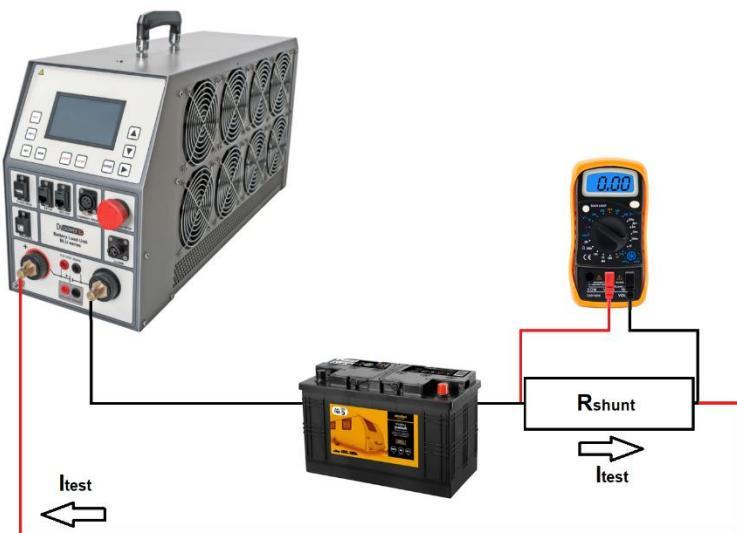

Figure 8-2: Connection of BLU device for DC current measurement check.
1. Connect BLU device, a battery, a DC voltmeter and a $1\text{ m}\Omega/100\text{ m}\Omega$ test shunt (depending on the test current), as shown in Figure 8.2.